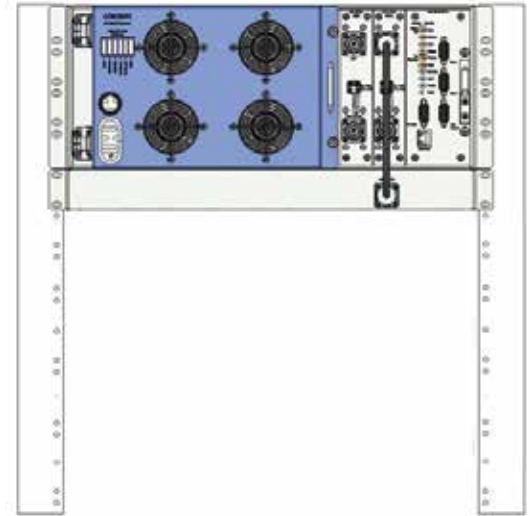

Figure 14. Example of Connection Between HX WCS and EPM
- Step 1:** Connect the HX WCS MUX “ANT” 4.3-10-type duplexed RF port to the EPM front panel high-band Mini DIN 4.3-10 input port. See Figure 14.